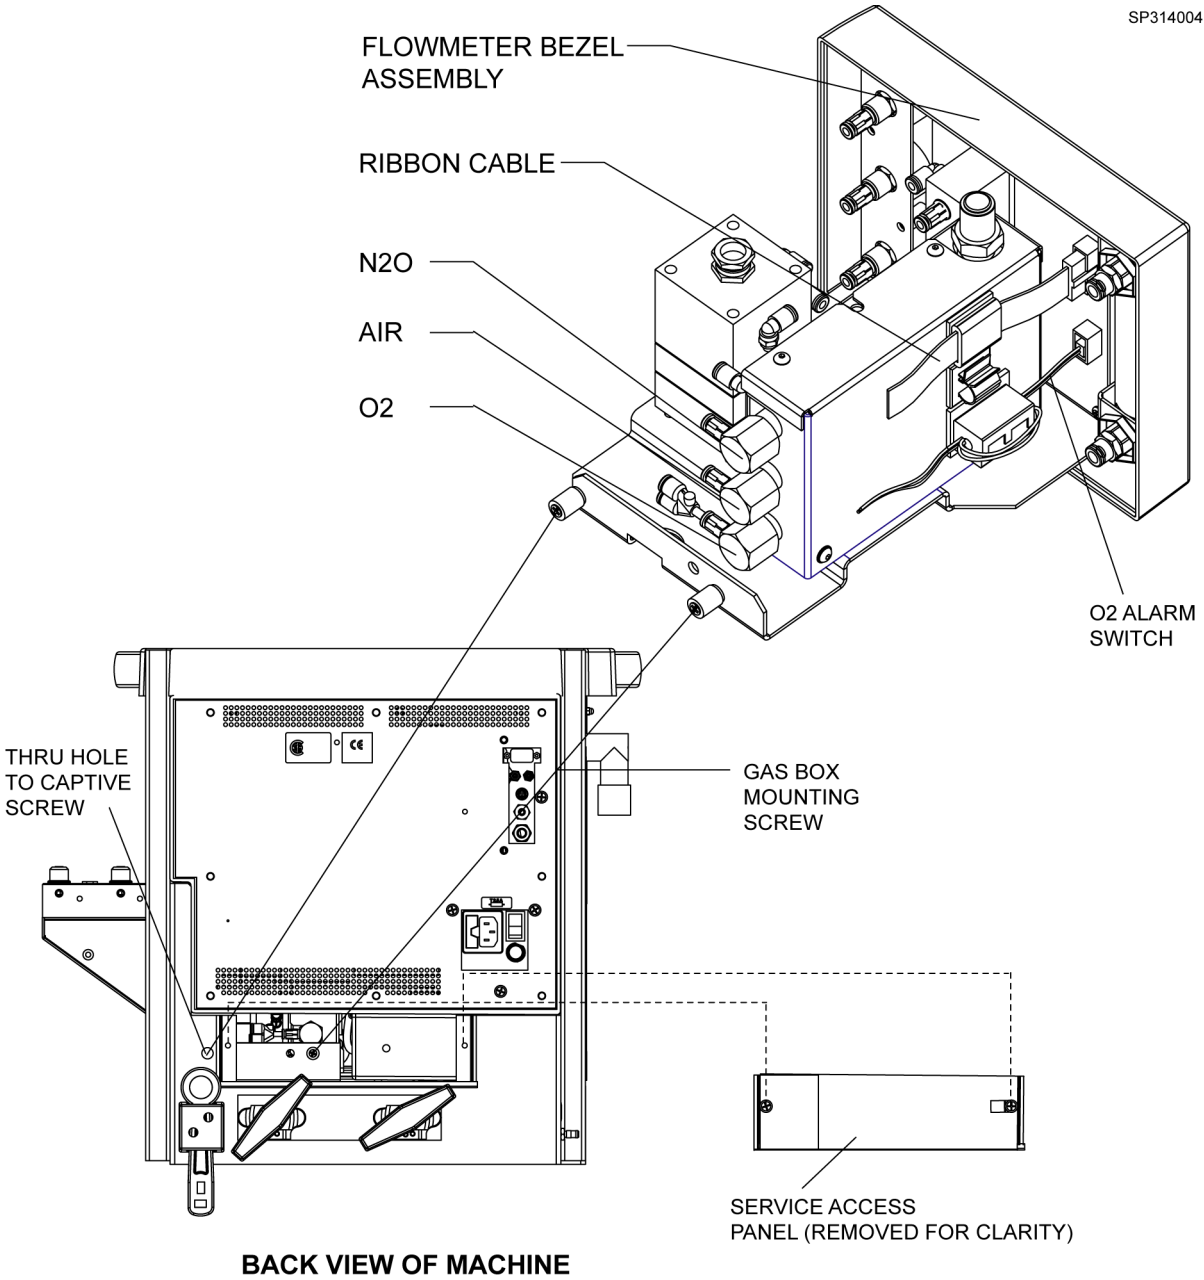

Fig. 3 Flowmeter Bezel Assembly - Fabius Tiro
13. Remove the two screws that secure the Service Access Panel at the rear of the Core Unit. Refer to Fig. 3